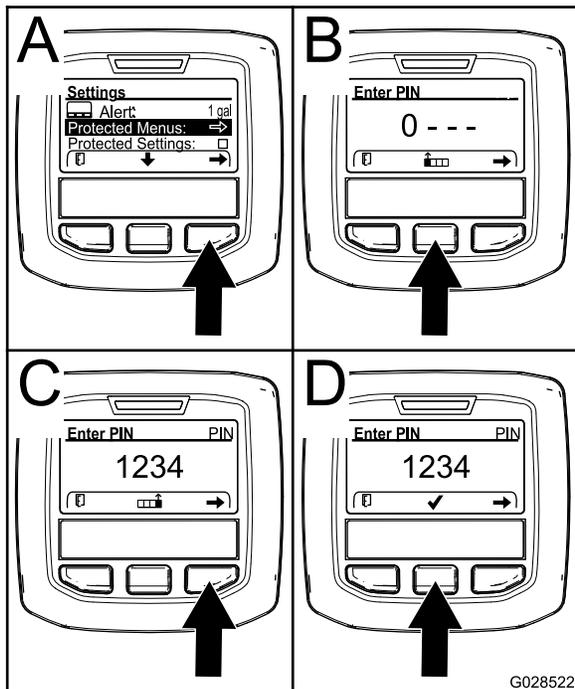

Figure 11
2. Press the right select button to select Protected Menu (A of Figure 11).
- Press the center selection button (B of Figure 11) to increase the numerical value (0 to 9).
- Press the right selection button (C of Figure 11) to move the cursor to the next numerical position to the right.
Note: The checkmark icon appears above the center selection button (D of Figure 11).
5. Press the center selection button (D of Figure 11) to enter the password.